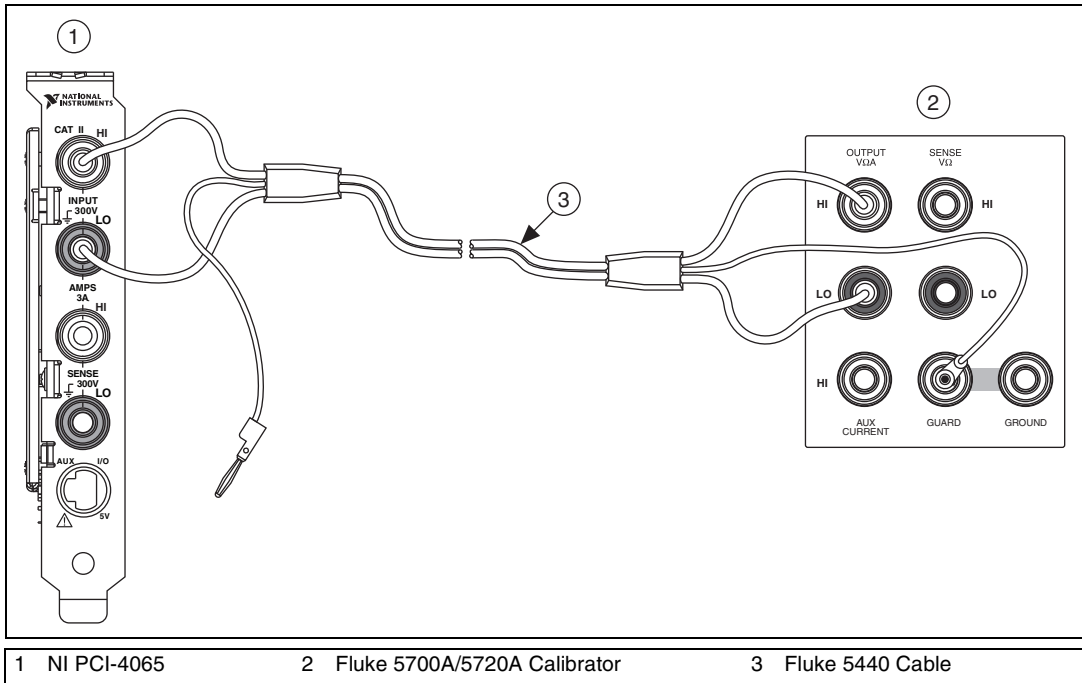
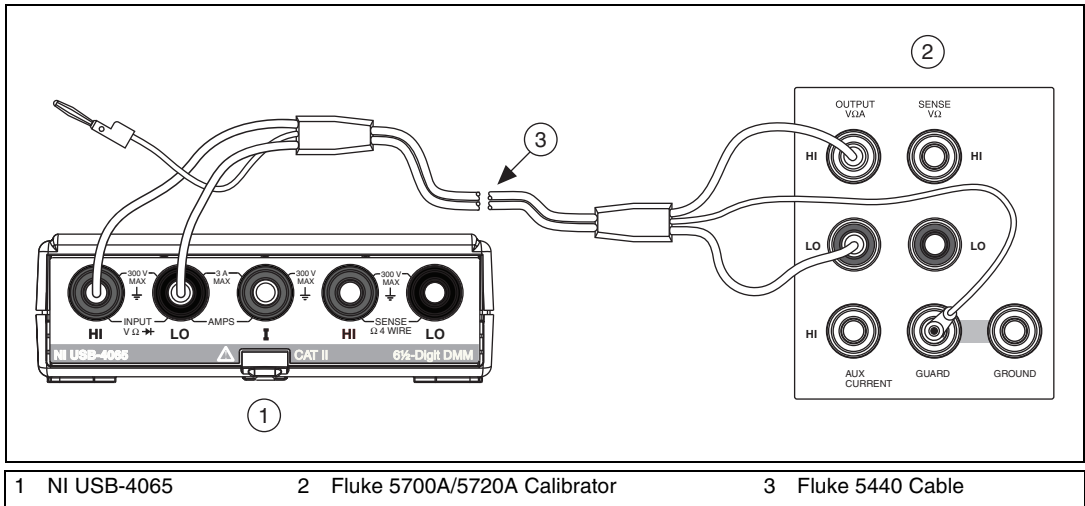

Figure 1. NI PXI/PCI/PCIe-4065 Cable Connections for Voltage and 2-Wire Resistance
Figure 2. NI USB-4065 Cable Connections for Voltage and 2-Wire Resistance
2. Connect the NI 4065 and the Fluke 5700A/5720A calibrator using the Fluke 5440 cable, as shown in Figure 1 for NI PXI/PCI/PCIe-4065 and Figure 2 for NI USB-4065. Table 2 lists the cable connections.